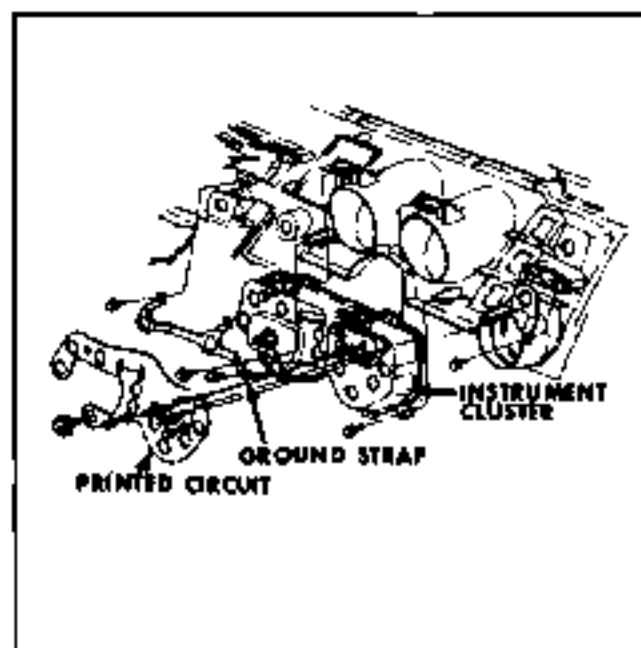

Fig. 12-32 Typical - Tempest, Firebird and Grand Prix Printed Circuit Installation
3. Remove bulbs, screws and nuts retaining printed circuit to instrument cluster (Fig. 12-32).